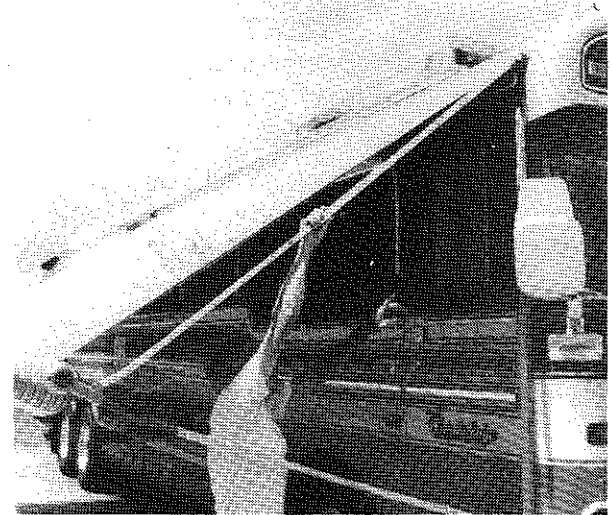

Figure 11-3.
3. Release the ratchet stud on the rafter arm. Swing the arm toward the case and engage the hook section of the claw in the rafter lock, **figure 11-3**. Lock the rafter arm by pressing down on main arm bar, making the fabric taut, until the ratchet stud engages.